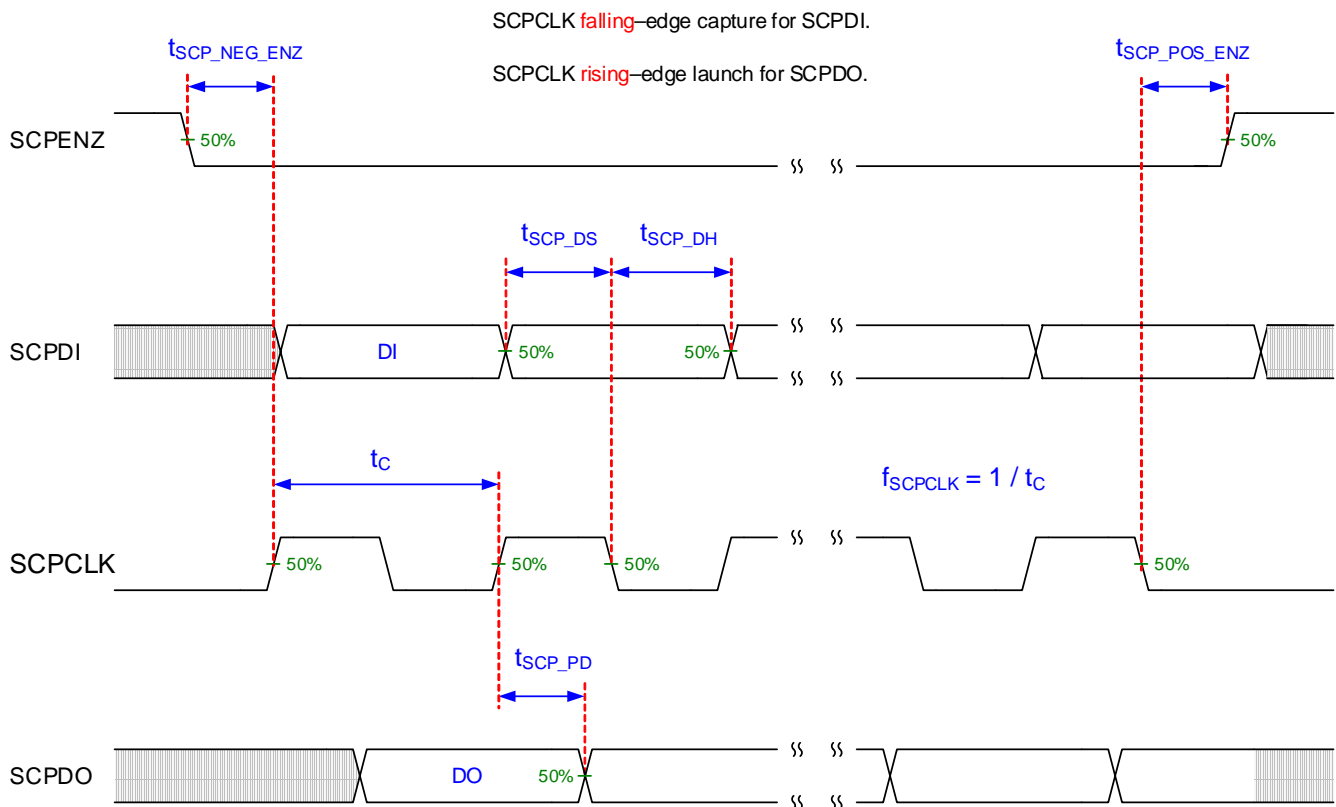

Figure 2. SCP Timing Requirements
(6) PWRDNZ input pin resets the SCP and disables the LVDS receivers. PWRDNZ input pin overrides SCPENZ input pin and tristates the SCPDO output pin.
(7) The SCP clock is a gated clock. Duty cycle must be  $50\% \pm 10\%$ . SCP parameter is related to the frequency of DCLK.
(8) See Figure 2.